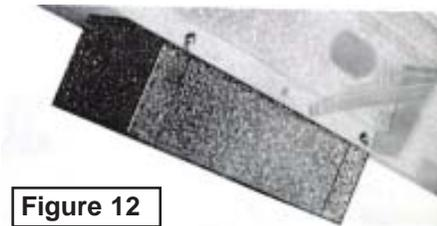

Figure 12
- A. If you cannot balance the elevator as described above, more weight must be added to the lower end of the elevator. Fig. 12 illustrates a counter weight box that is available in cases like this. It can be filled with sand, gravel, dirt, etc., as required.